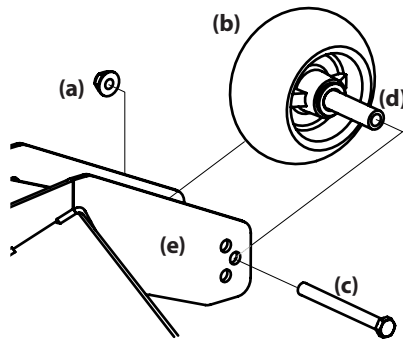

Figure 42
- Remove the lock nut (a) securing one of the front gauge wheels (b) to the deck. Remove the front gauge wheel (b), hex screw (c) and spacer (d). See Figure 42.
- Insert the hex screw (c) into one of the three index holes in the front gauge wheel bracket (e) that will give the front gauge wheel (b) a 1/4-1/2" clearance with the ground. See Figure 42.
- Note the index hole of the just adjusted front gauge wheel (b), and adjust the other front gauge wheel (b) into the respective index hole of the other front gauge wheel bracket (e). See Figure 42.